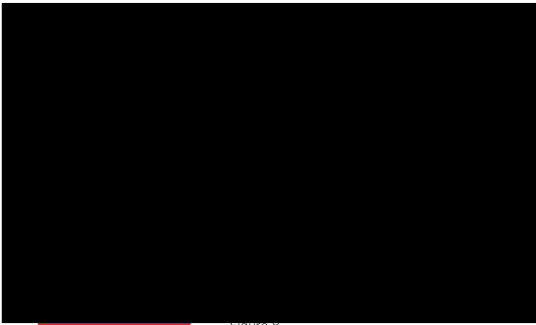

Figure 8.
- Torque and Mark torque., as shown in figure 8.